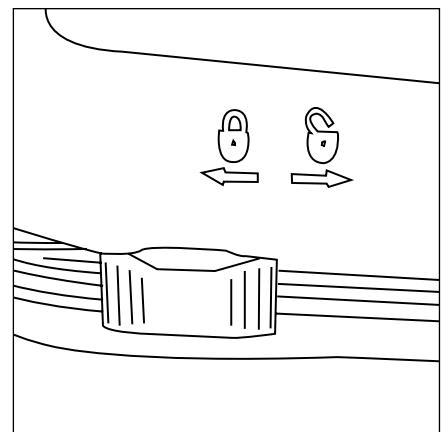

Figure 7
3. Place the chamber lid onto the chamber base and slide the six latches into the locked (🔒) position (**Figure 7**). Inspect the o-ring seal and verify that the o-ring is properly seated.